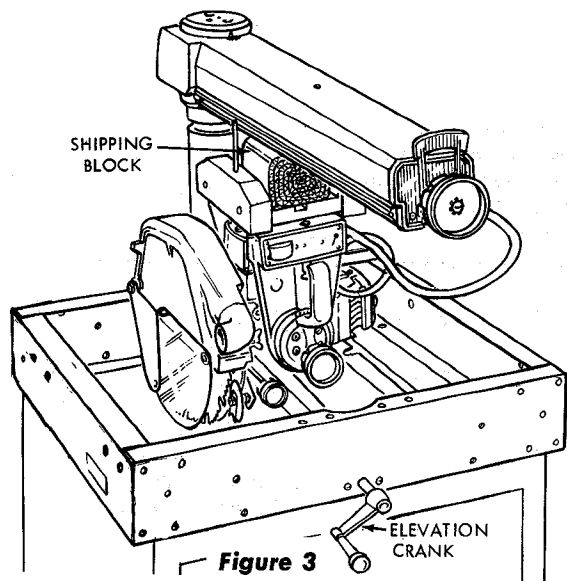

Figure 3
- Install the elevation crank (figure 3) on end of elevation shaft and tighten the set screw on flat portion of shaft with a 1/8-inch hex-L wrench.
- Rotate the elevation crank clockwise several turns to free the shipping block (fibre pad), located between the carriage and radial arm. (See figure 3.) Remove and discard the shipping block.